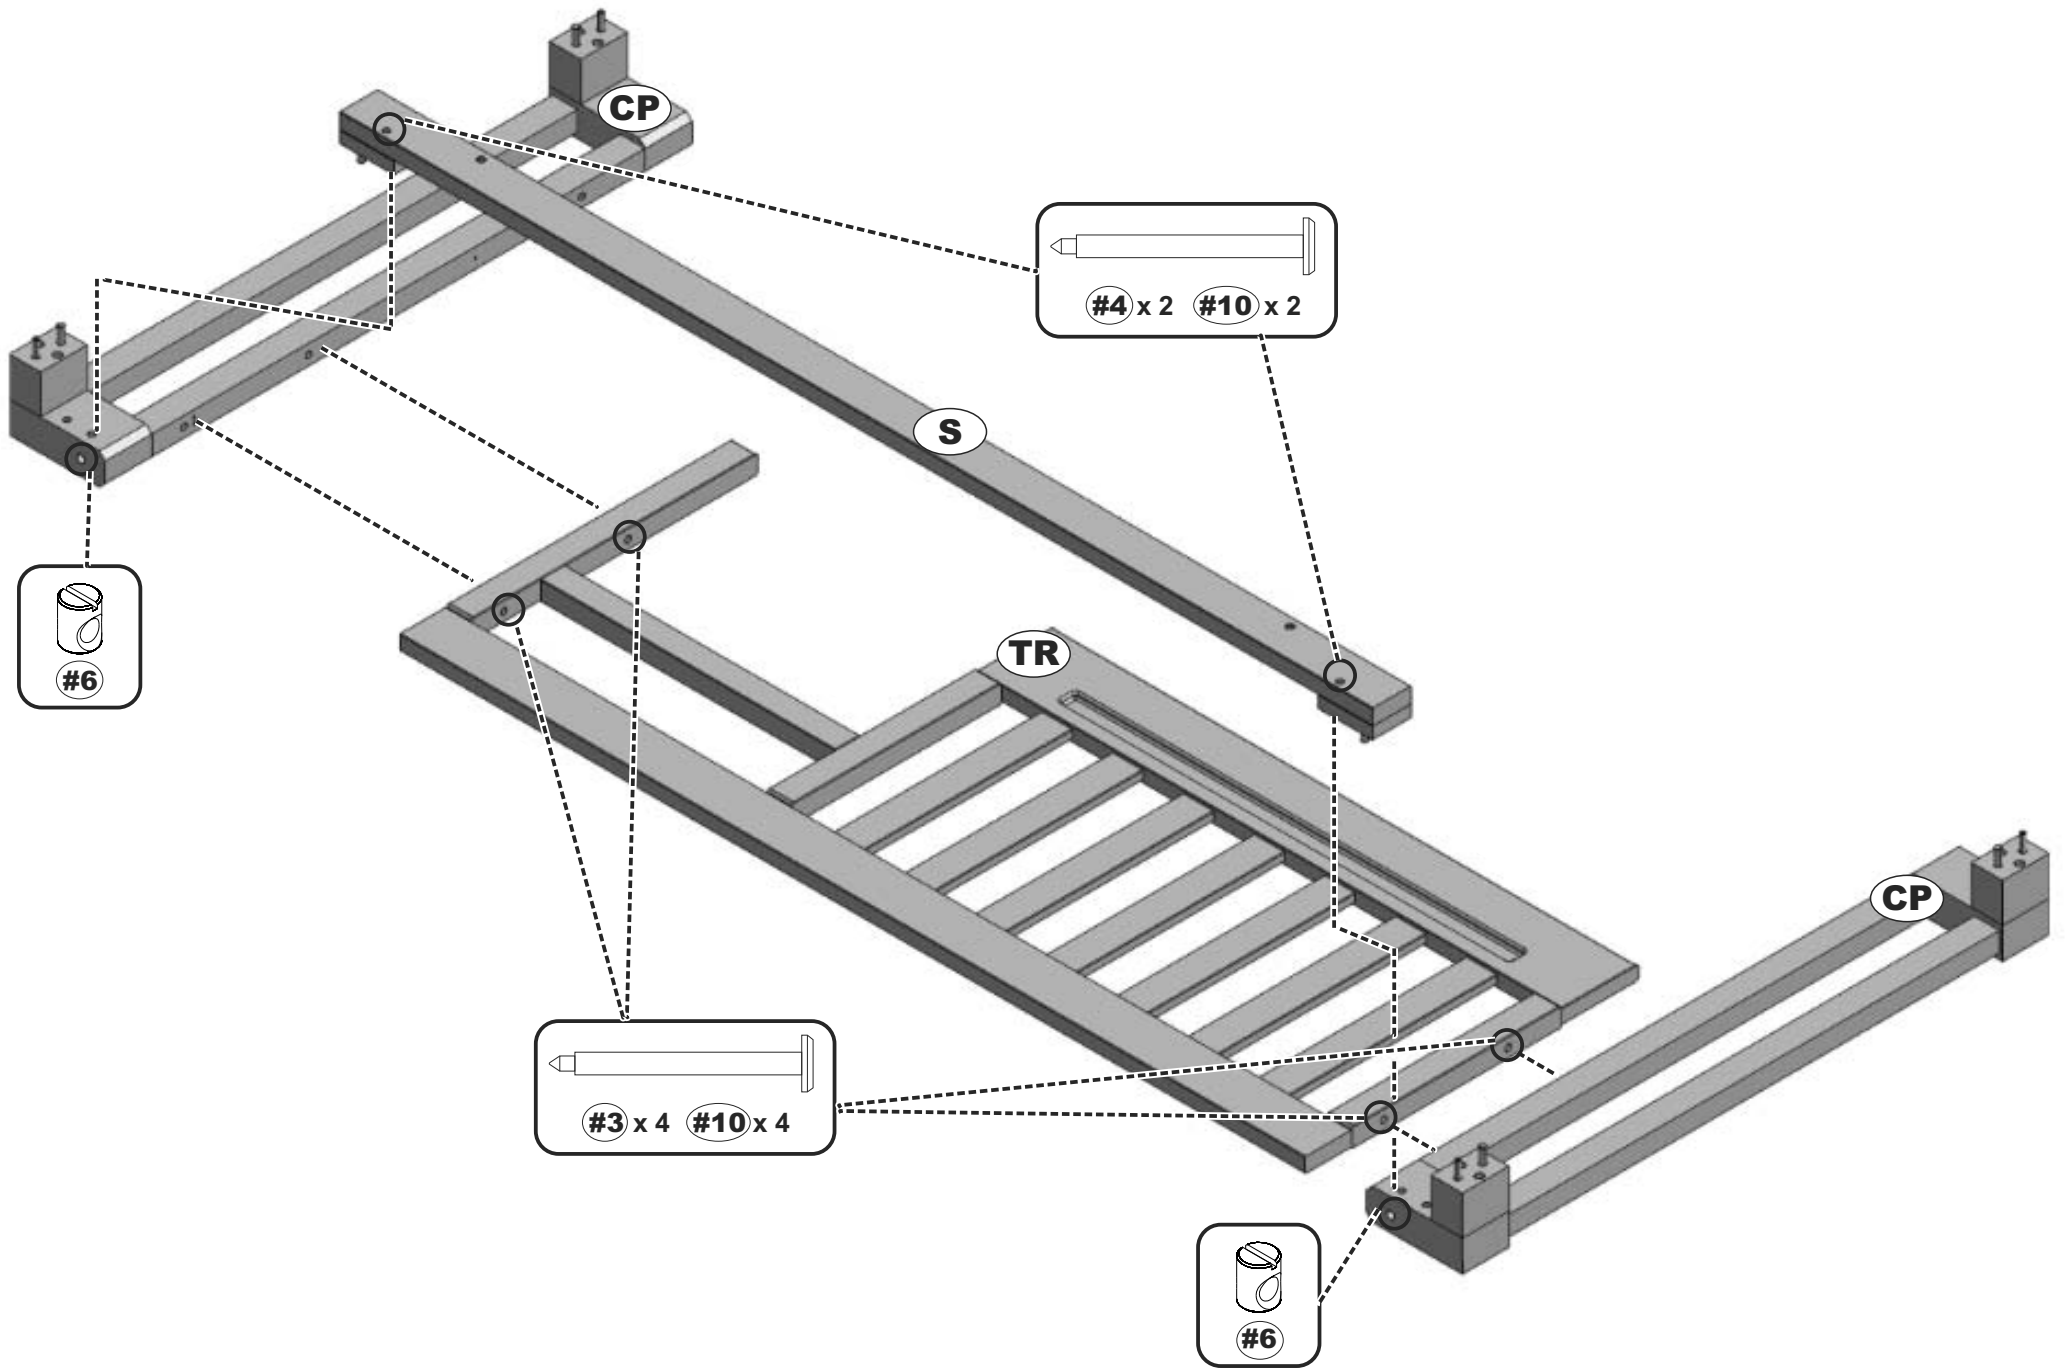

FIGURE 1s
STEP 2s (Two adults are required to complete this step, see Figures 1s & 2s for details)